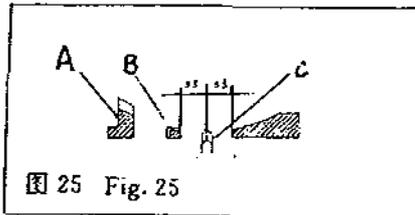
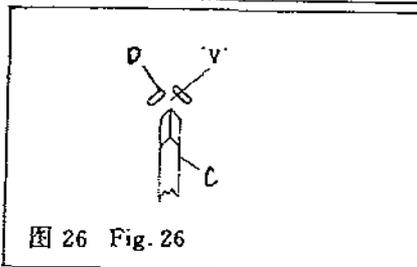

图 25 Fig. 25
图 26 Fig. 26
(1)左右位置 抬料轮“C”的中心位置应与针板“A”上的压料板槽中心位置重合(图 25);压料板“D”的V形槽中心位置与抬料轮“C”中心位置重合(图 26)。
①首先旋松紧定螺钉“C”，转动顶尖螺钉“B”，使抬料轮调节杆“A”无轴向窜动，但又能灵活摆动，然后将紧定螺钉“C”旋紧。
②旋松卡圈“D”的锁紧螺钉“E”及曲柄“F”的锁紧螺钉“G”后将抬料轴左右移动，使抬料轮处于标准位置(图 25)时将锁紧螺钉“E”及“G”旋紧，并保持抬料轴无轴向窜动，但能灵活摆动，且与左右压脚板互不相碰。
③旋松压料板螺钉“A”，左右移动压料板“D”(图 12)使压料板 V 形槽中心与抬料轮中心重合(图 26)时，旋紧压料板螺钉。
(1) The left and right position.
The centre of the ridge forming disc "C" coincides with the centre of material retainer groove on needle plate "A" (Fig. 25); the centre of "V" groove of material retainer "D" coincides with the centre of ridge forming disc "C" (Fig. 26).
① Loosen set screw "C" and turn pointed screw "B" to secure that the ridge forming disc regulating lever "A" swings nimbly and is kept from having axial play, and tighten set screw "C".
② After loosening lock screw "E" of collar "D" and lock screw "G" of crank "F", move the ridge forming disc leftward or rightward to set the ridge forming disc in a position required (Fig. 25), tighten lock screw "E" and "G". Make sure that the ridge forming disc shaft shall be kept from having axial play and swing nimbly. The ridge forming disc shaft shall not come into contact with either the left presser foot or the right one.
③ Loosen material retainer screw "A", move material retainer "D" (Fig. 12) leftward and rightward to make the centre of "V" groove on material retainer coincides with the centre of the ridge forming disc (Fig. 26). Tighten material retainer screw.